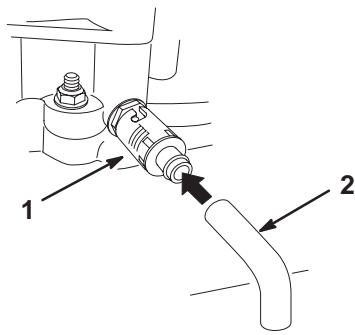

Figure 18
6. Place a pan below the drain hose. Rotate oil drain valve to allow oil to drain (Fig. 18).
8. Remove the drain hose (Fig. 18).